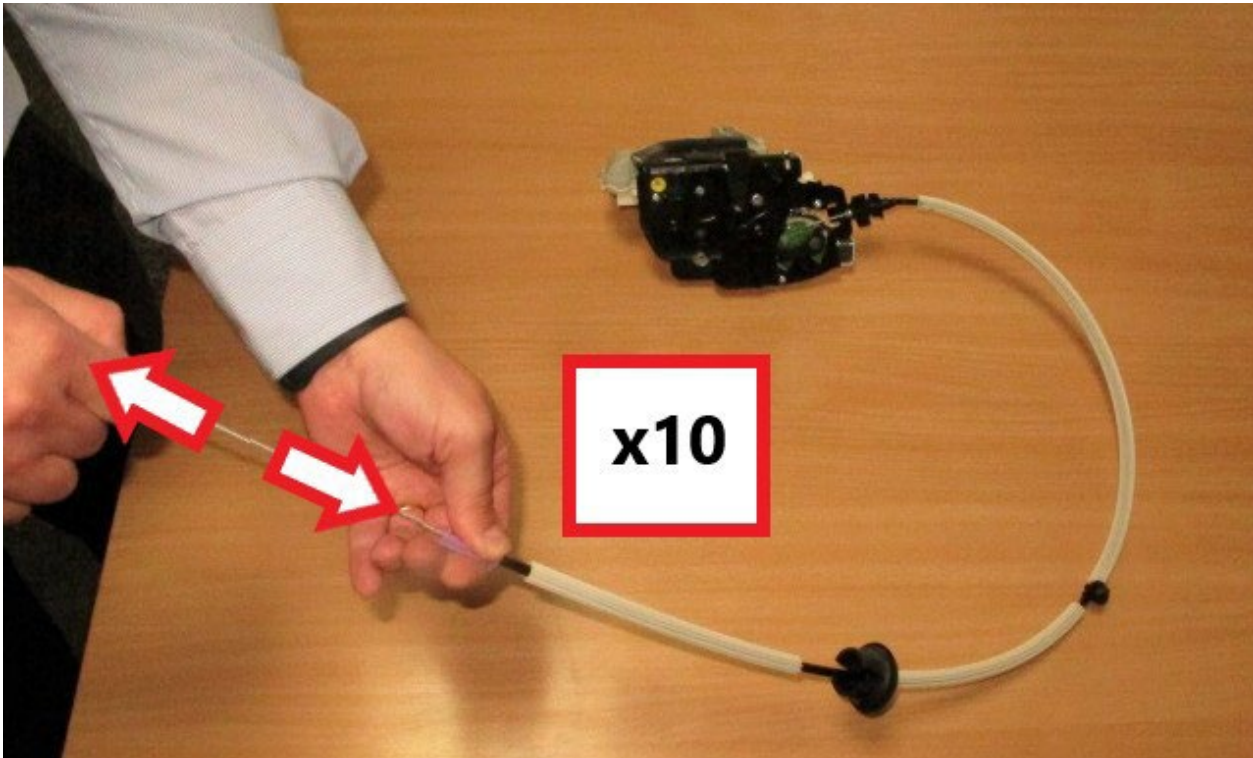

Figure 18
13) Referring to Figure 18 - Open and close the latch spool (x10) times whilst monitoring the operation of the spool / cable